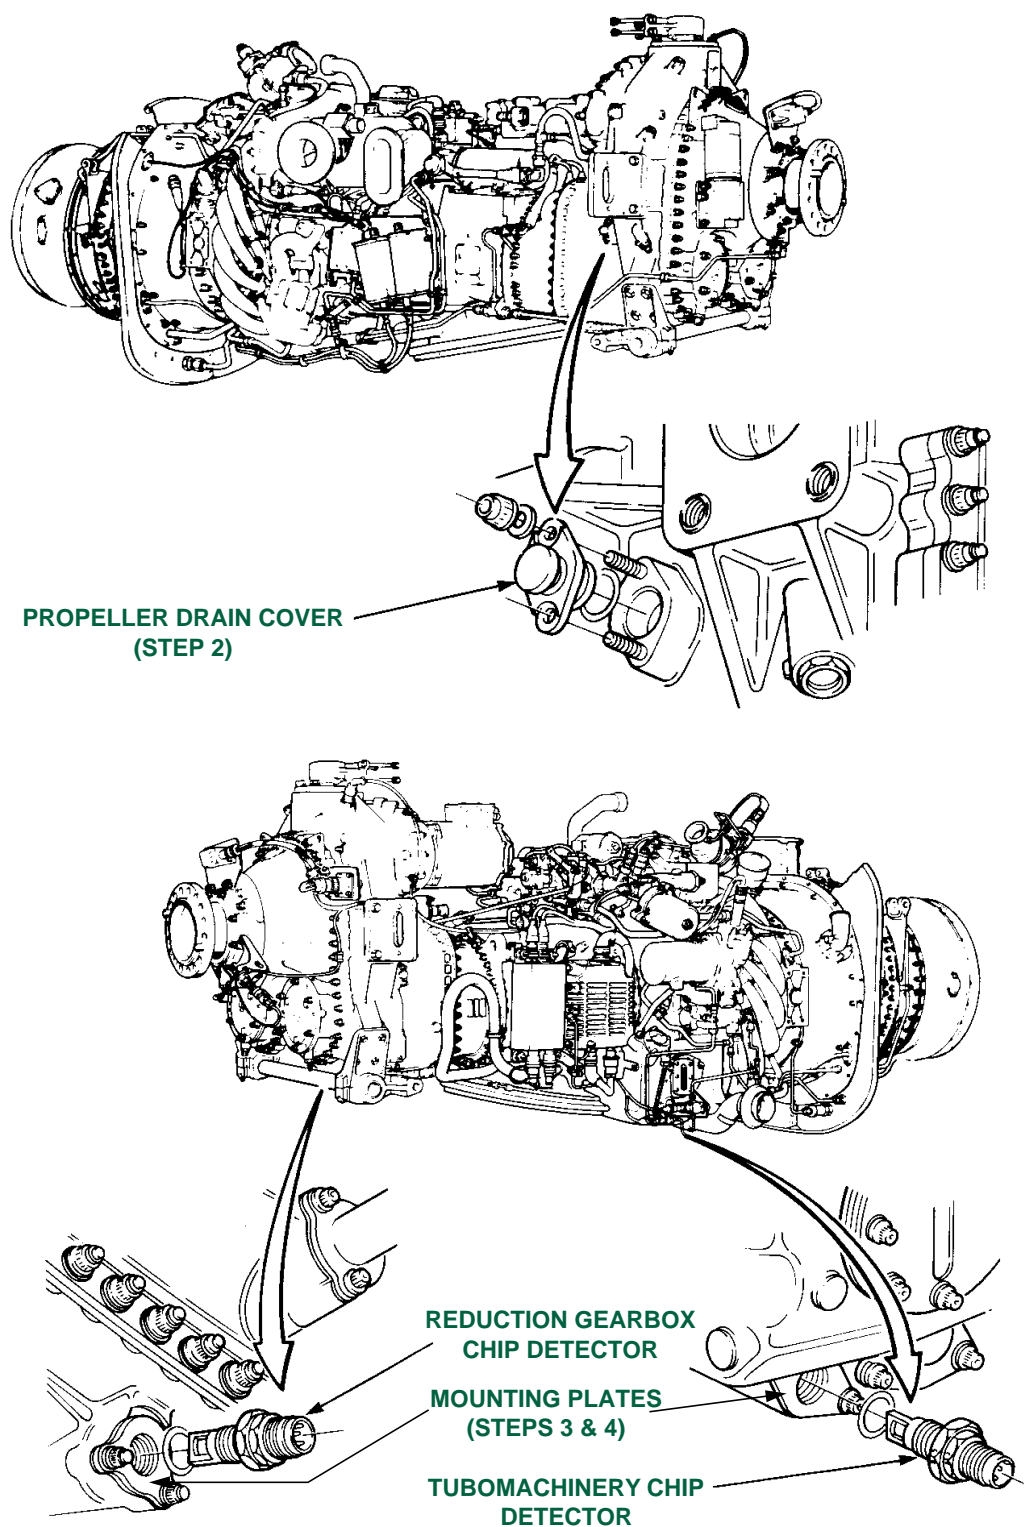

FIGURE 5 - OIL DRAINING PW120, PW120A & PW121 ENGINES
5.4.1 Inhibit PW120, PW120A and PW121 engine oil systems as follows (see Figure 5):